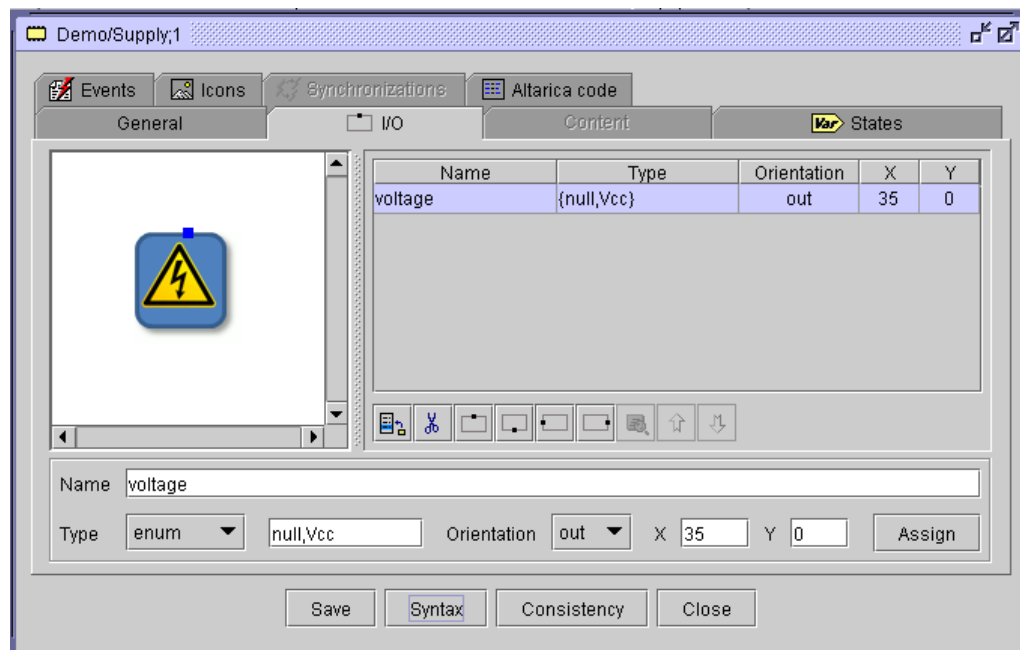

Figure 74 : I/O tab – Enumerated variable
- * **enum**: for enumerate type (Figure 74), values **must** be separated by commas without spaces, e.g. : *null,low,high*.